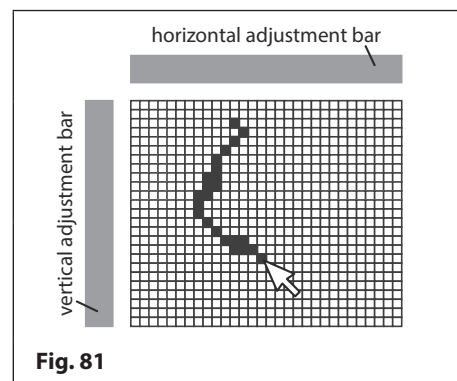

Fig. 81
- To draw an individual pixel move the cursor to the relevant pixel in the editing area and click the left mouse button once, **Fig.81**.